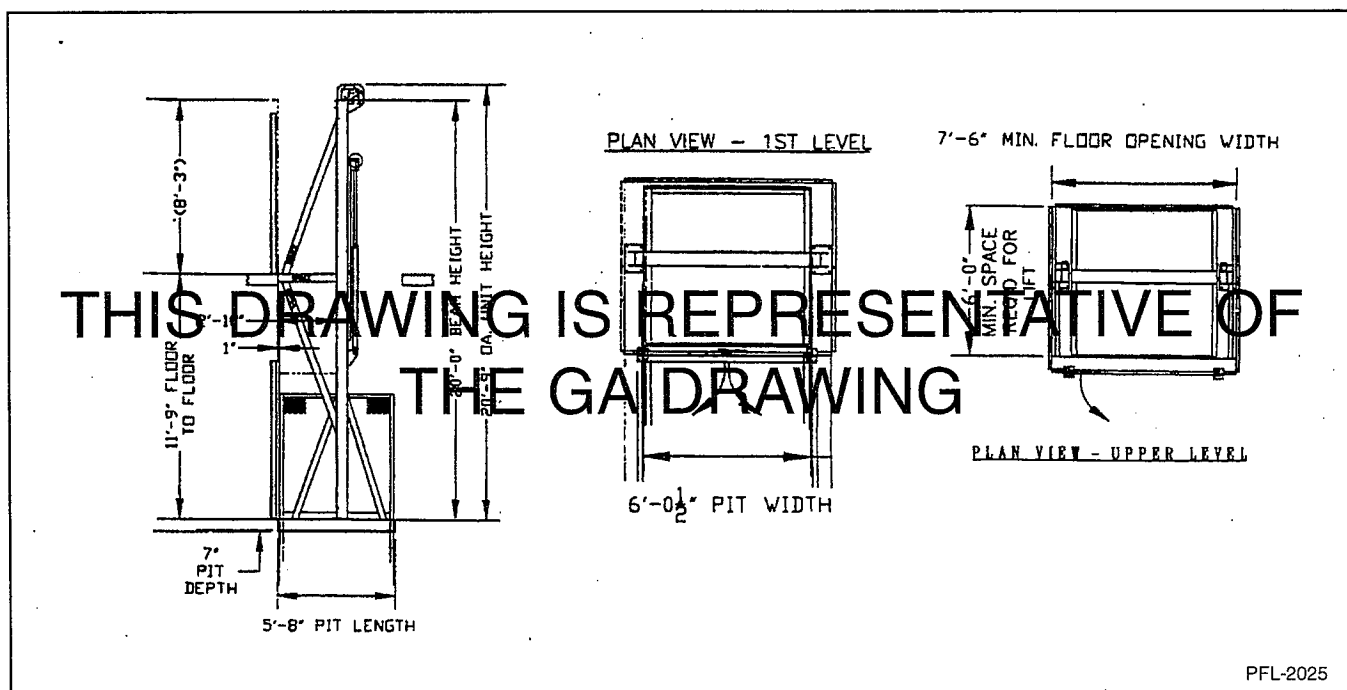

Figure 4
2. The shipping packet found inside the parts crate contains a copy of the general arrangement drawing. See Figure 4.
*The model and dimensions shown in Figure 4 are not applicable to your unit. This drawing is for illustrative purposes only.*